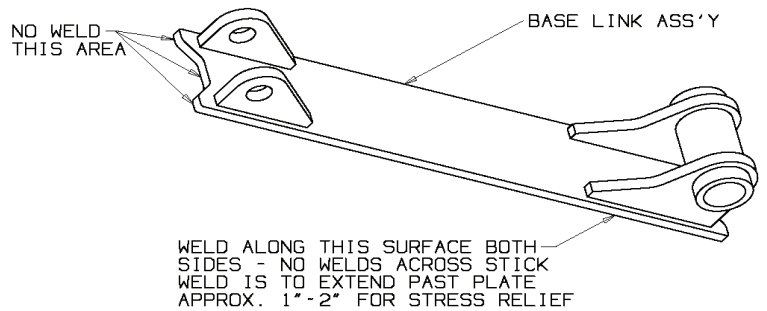

FIGURE 3
7. After verification of the location of the thumb finish welding the Base Link Ass'y to the stick. Make sure to extend the weld past the end of the bracket by 1"-2" for stress relief. Figure 3.